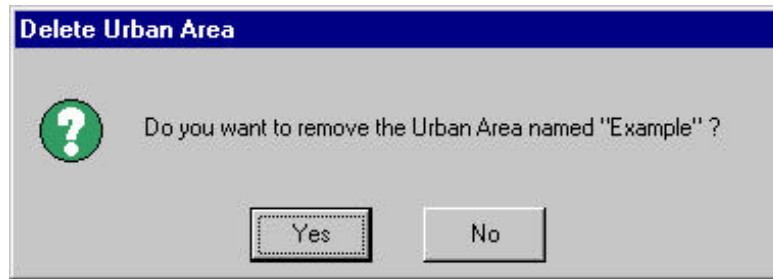

Figure 14.82
- c. A prompt box will appear requesting the user to verify the delete (Figure 14.82).